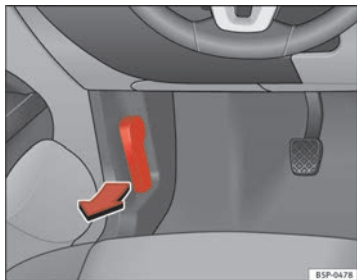

Fig. 164 Detail of foot-well area on driver side: lever for unlocking the bonnet.
- To release the bonnet, pull the lever under the dash panel ⇒ fig. 164 in the direction indicated (arrow). The bonnet will be released by a spring action ⇒ ⚠.